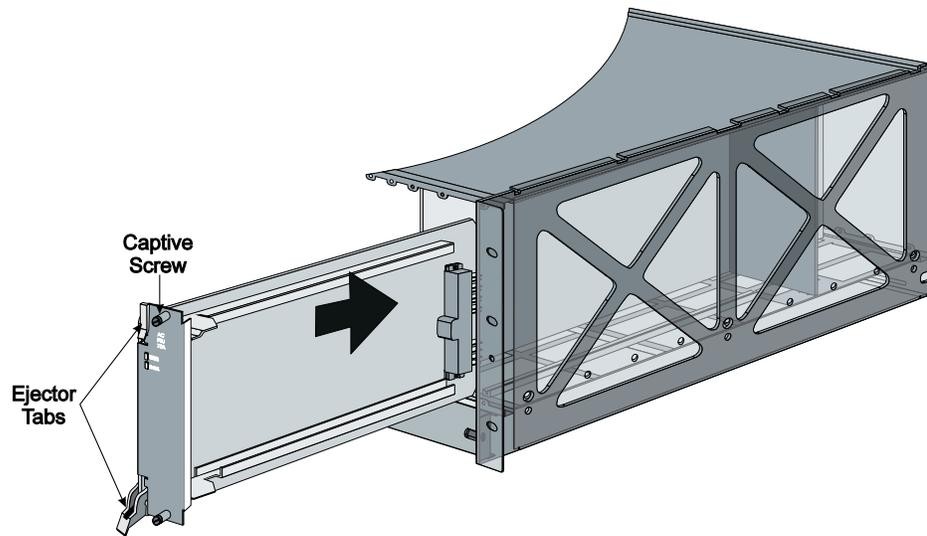

Figure 13. PSU Installation
- 1 Insert the PSU into the appropriate slot in the front of the chassis by guiding it into the upper and lower card guides. See Figure 13.